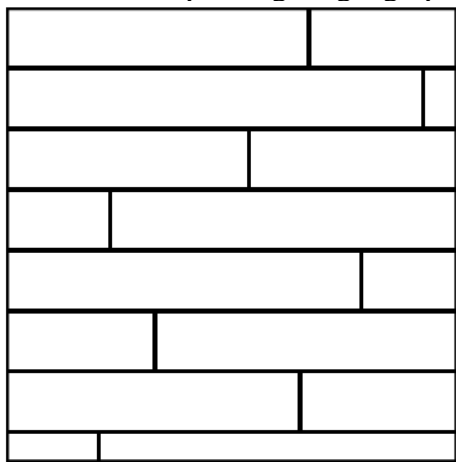

Figure A-1: Acceptable
7. Racking rule of thumb: Stagger end joints in adjacent rows at least three times the width of the boards, as product allows. Avoid H-joints. See figure A-1.